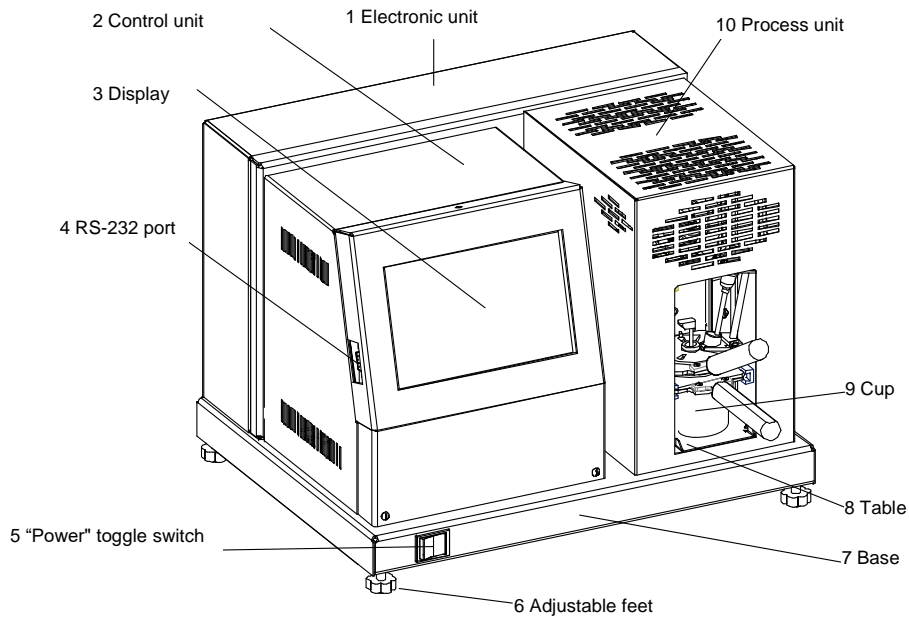

Figure 1 – Analyzer arrangement
2.3.2.1 General view of the analyzer is shown in Figure 1.
2.3.3.1 In course of test performance the cup with product filled in and the cover closed is put on table (8) (see Figure 1) and inserted into the analyzer along guides until full stop.
3.3.1 Plug the analyzer in and switch it on with “**Power**” toggle switch (5) (see Figure 1, page 5).
4) The analyzer's operating mode is continuous. After the end of operation, the device is switched off by the "Power" toggle switch (see figure 1, page 5).